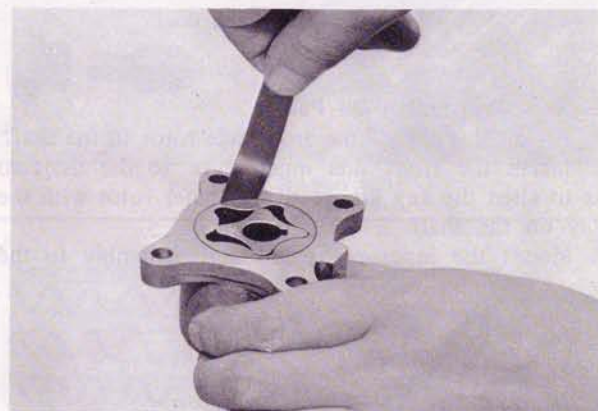

Fig. 2-4 Checking outer rotor clearance
2. Check the clearance between the outer rotor and pump body with a feeler gauge as shown in Fig. 2-4. The specified clearance is 0.20 ~ 0.25 mm (0.008 ~ 0.01 in). If the clearance is more than 0.30 mm (0.012 in), replace the rotor(s) or body.